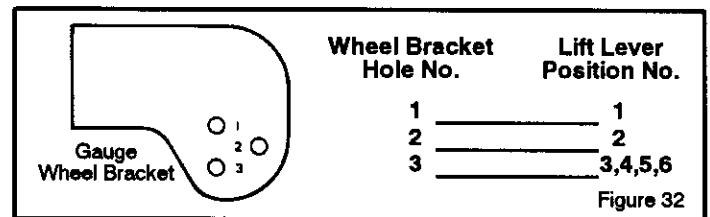

Figure 32
3. Look at each gauge wheel bracket. There are 3 holes in each bracket and a number next to each hole. The number for the height of cut position on the lift lever indicates the correct hole to use on each gauge wheel bracket (Figure 32).
4. Assemble the axle bolts to the gauge wheel brackets using the correct hole in the bracket as indicated (Figure 32).
NOTE: If the height of cut position is changed by the lift lever, you must move the gauge wheels to the correct hole (Figure 32) to keep a level height of cut.